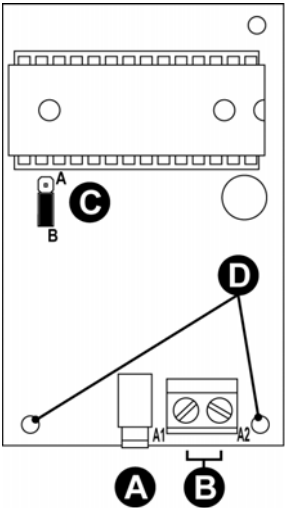

Figure 13 – Speech synthesis card
- Put the two provided support spacers in the two holes D of the card (figure 13).